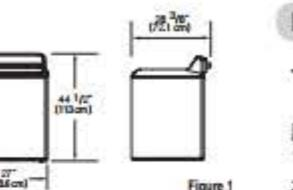

Figure 1
- Considering the size of the product, perform the installation at the installation site (Figure 1).